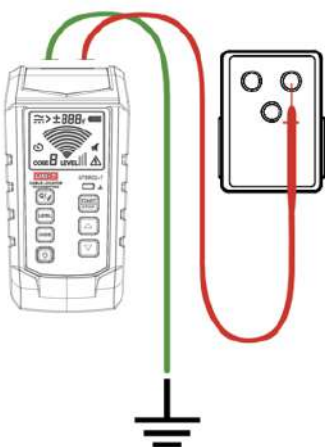

Figure 7.1.1a Correct Connection of Independent Grounding
2. Connect the outlet converter to the outlet, and connect the red test lead to the energized live wire (at the load side of the system). Signal is generated only between the power supply and the load side connected with the transmitter. As shown in Figure 7.1.1a.